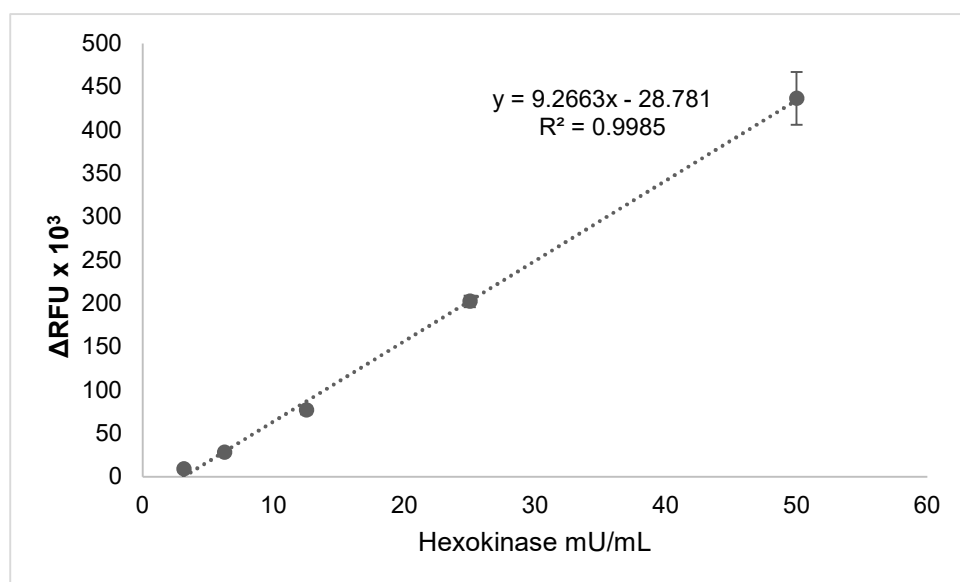

Figure1. A typical HK standard curve measured at 20 minutes by ScienCell™ Hexokinase Activity Assay-Fluorometric.
HK-FL is applied to serially diluted Hexokinase Standards with concentrations ranging from 3-50 mU/mL and is used to generate a standard curve (Figure 1).
3. Make a standard curve (shown in Figure 1) using the corrected RFU values of the hexokinase against standard concentration. Determine the equation and R^2 value of the trend line.